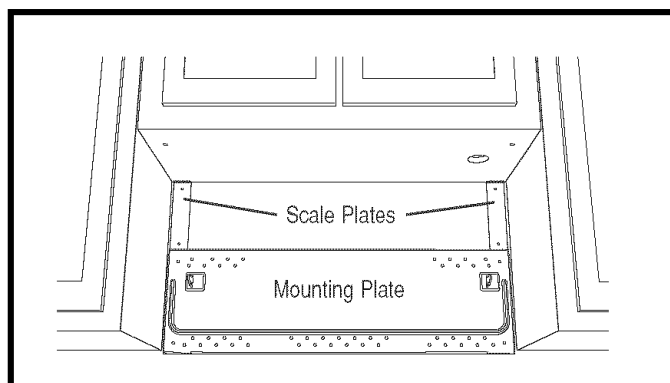

Figure 16
Attach 2 Scale Plates ⑩ with tape (not included). See Figure 16 and WALL TEMPLATE for locations.